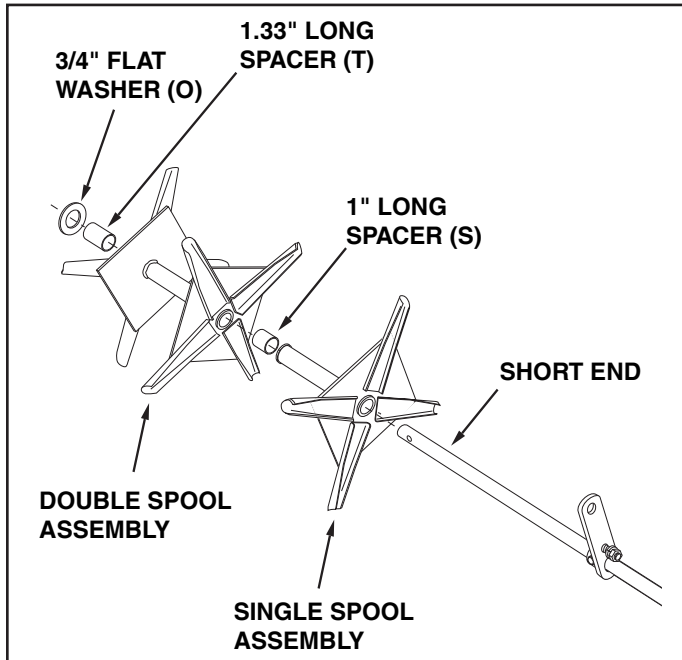

FIGURE 4
7. Assemble a single spool assembly, a 1" long spacer, a double spool assembly, a 1.33" long spacer and a 3/4" flat washer onto the short end of the shaft. See figure 4.